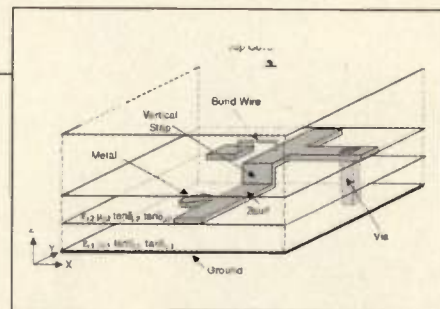

Figure 4. MMIC circuit suited to 2.5D analysis.
2.5D geometry consists of a planar layered substrate with arbitrarily shaped metallization on the surfaces of the various layers. Vertical connections, such as vias and vertical strips, run between the different metal layers. The substrate can be a set of homogeneous dielectric and/or magnetic, lossy/lossless layers. Advanced 2.5D EM simulators can also accurately model the finite thickness of the metallization, bond wires, air bridges, and arbitrarily shaped via holes. A typical 2.5D structure is shown in Figure 4.